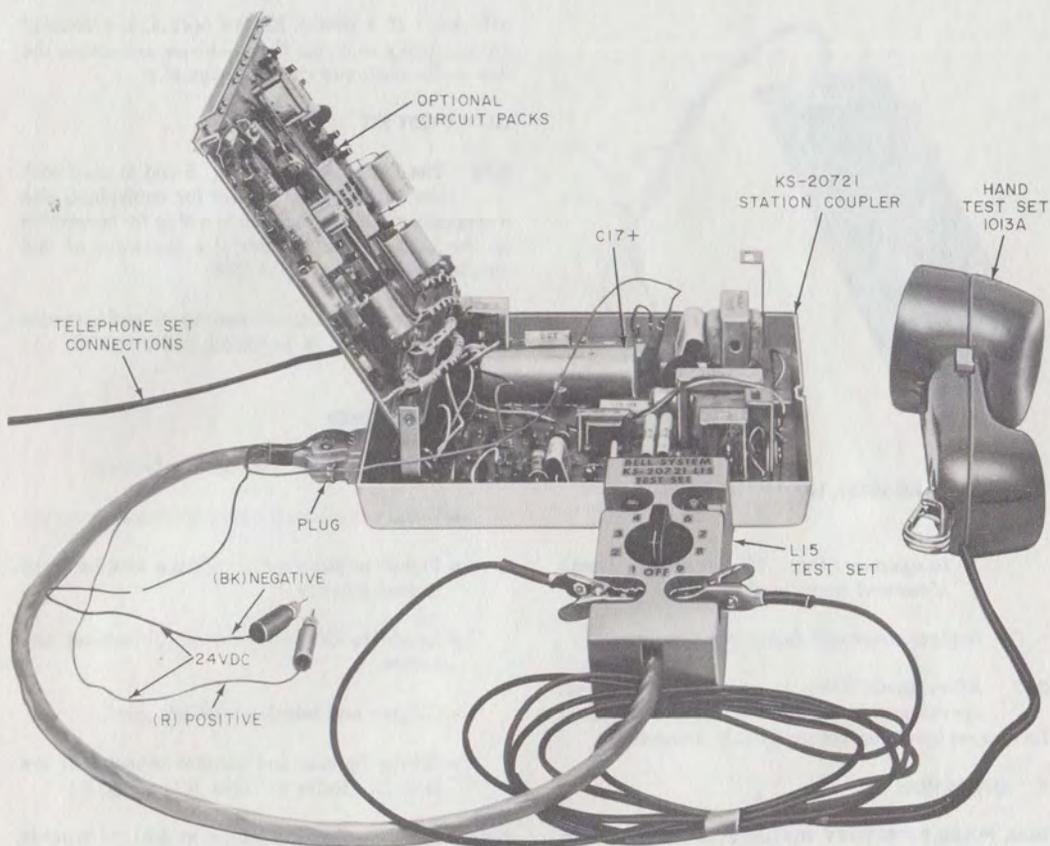

Fig. 5—KS-20721 Station Coupler With KS-20721, List 15 Test Set and 1013A Hand Test Set
- Set, Test, KS-20721, L15 (Fig. 5)
2.04 The KS-20721, List 15 test set plugs into the connector on the station coupler and is used with a 1013A hand test set (or equivalent) to check the operation of the coupler with the CPE disconnected (Fig. 5 and 6).
4.02 The List 15 test set (Fig. 5 and 6) used with the 1013A hand test set (or equivalent) and a connecting cable terminated in a plug for connection to the station coupler permits checkout of the coupler independent of the CPE.
3	Connect a 1013A (or equivalent) hand test set to terminals provided on test set (Fig. 5).
6	Connect alligator clip on wire coming from the test set plug to the positive (+) terminal of capacitor C17 in the station coupler (Fig. 5).